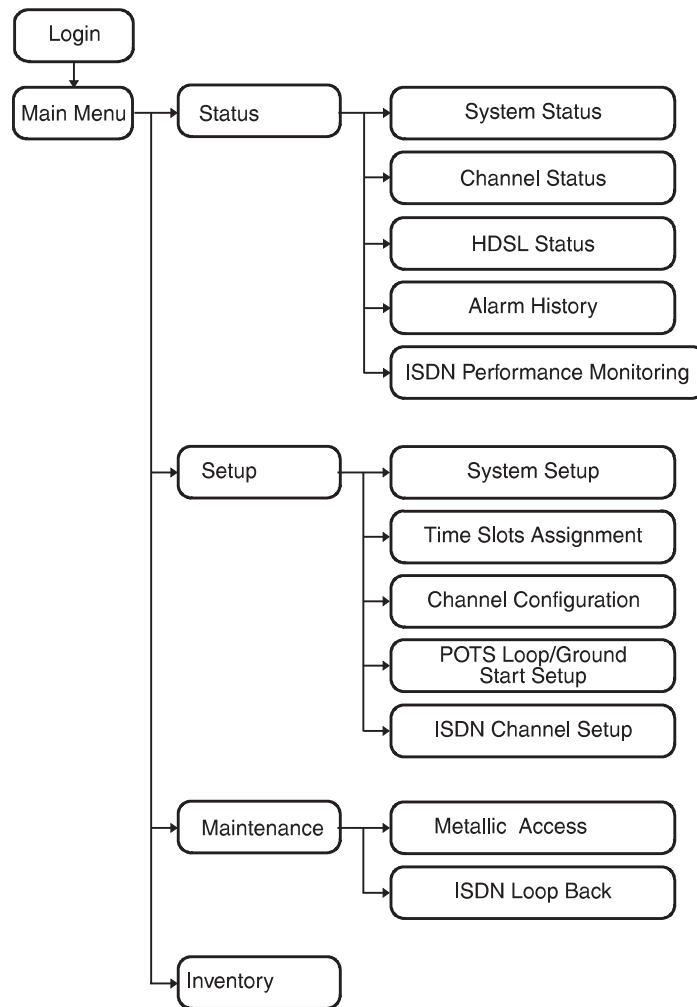

Figure 6. Terminal Menu and Display Structure
6.3 Menu and Display Structure. Figure 6 shows the menu structure of the terminal management system.